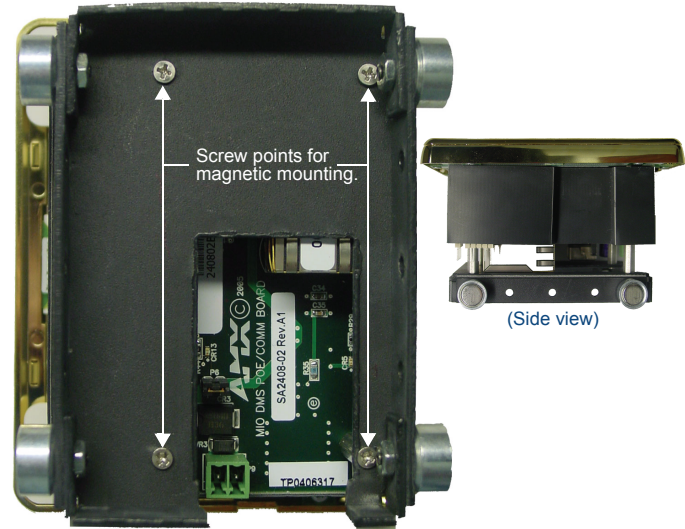

FIG. 5 Rear and side view of magnetic housing
6. Place and fasten the magnetic housing onto the standoffs as illustrated in FIG. 5. Note the orientation of the cutout on the magnetic housing in relation to the Mio Modero DMS board, it should not be mounted in any other fashion. Use either the 4 screws removed in step #3 or the 4 screws provided with the kit (for those that already lost the other 4 screws).